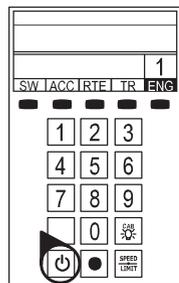

Figure 3. LEGACY start-up
- 5. Press the Start Up key on your LEGACY CAB-2 Remote, shown in Figure 3. Then, throttle up and move 'em out!** Your engine sound will start up, and the locomotive-specific touch screen buttons will populate the remote. For more information on operating your locomotive with the LEGACY system, please refer to the LEGACY section of this manual. Additional information is also found in the LEGACY System Manual, available online at [www.lionel.com](http://www.lionel.com).